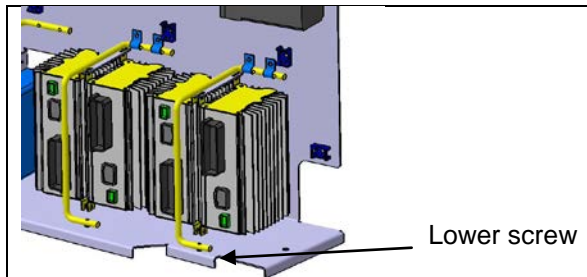

FIGURE 26: IO-B MODULE REMOVAL
2. Replace the module and plug connectors (for IO-B modules, disconnect the green connector first, then the grey one and finish with the black connector. To disconnect the black connector, slide downwards the red latch. Remove the lower screw that holds the cable attachment rod onto the floor portion of the panel and flip the rod up, this will relieve the IO-B module, (see Figure 26).